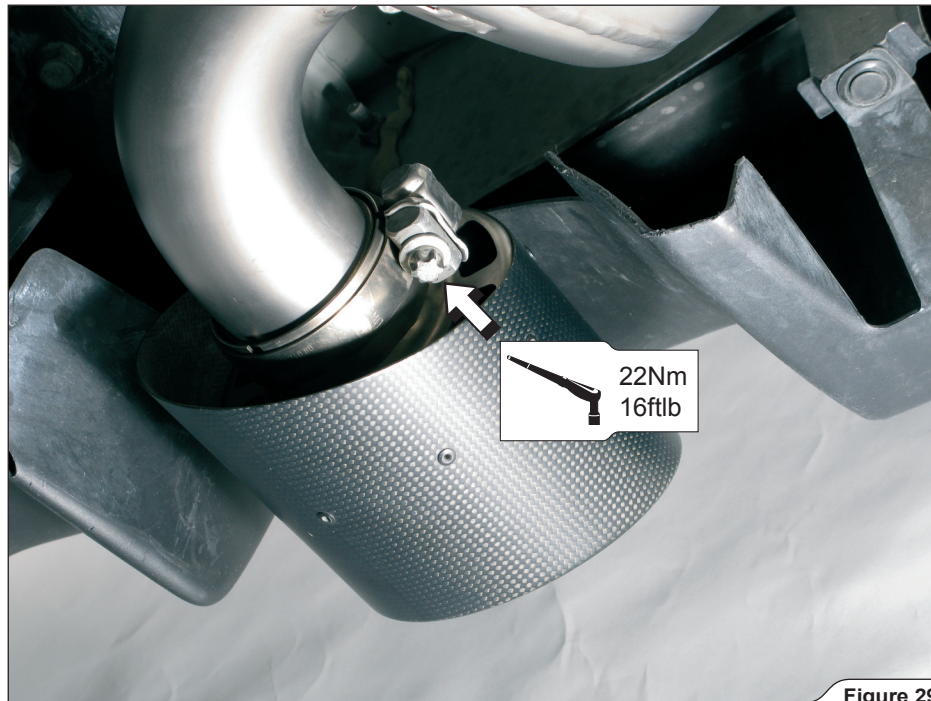

Figure 29
17. **For Slip-On and Evolution:** tighten the tail pipe clamps to a specified torque (**Figure 29**).